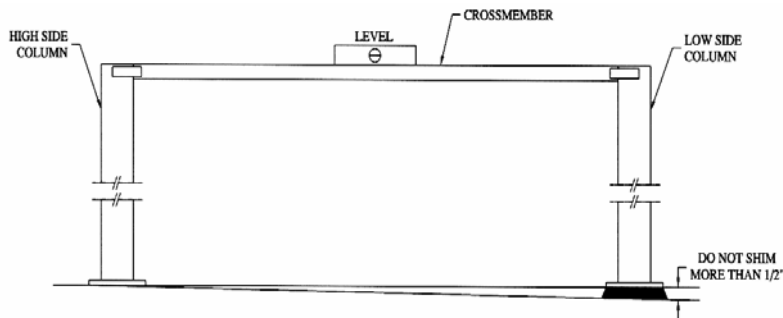
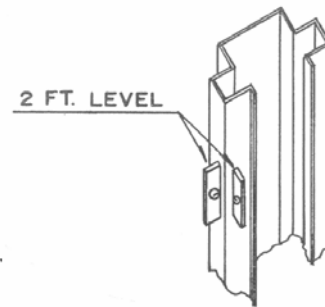
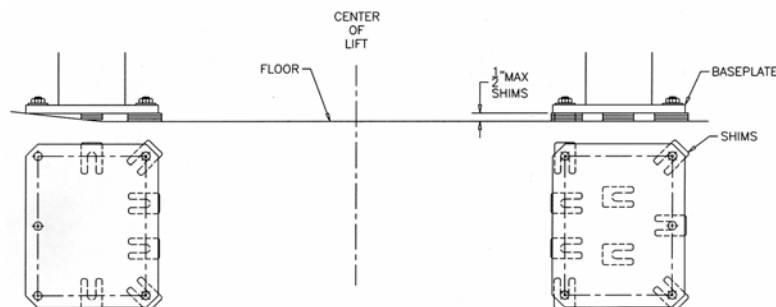

Figure 14
Figure 15
Figure 16 - Shims
1. Using a 4ft. level on top of the crossmember, determine which column is higher. Refer to **Figure 14**.
2. Using a 2ft. level on the sides of the high column, ensure that the column is level in the vertical position (**Figure 15**). Use shims under the column baseplate to hold the column level. Ensure that the base plate is completely supported by shims where it does not contact the floor (**Figure 16**).
5. Reconfirm that the column is level front to rear and side to side (**Figure 15**). Add or remove shims as required.
1. Using a 4ft. level on top of the crossmember (**Figure 14**) and a 2ft. level on the low side column (**Figure 15**), shim underneath the baseplate until the crossmember and column are level. Ensure that the baseplate is completely supported by shims where it does not contact the floor (**Figure 16**).
4. Reconfirm that the column is level front to rear and side to side (**Figure 15**). Add or remove shims as required.